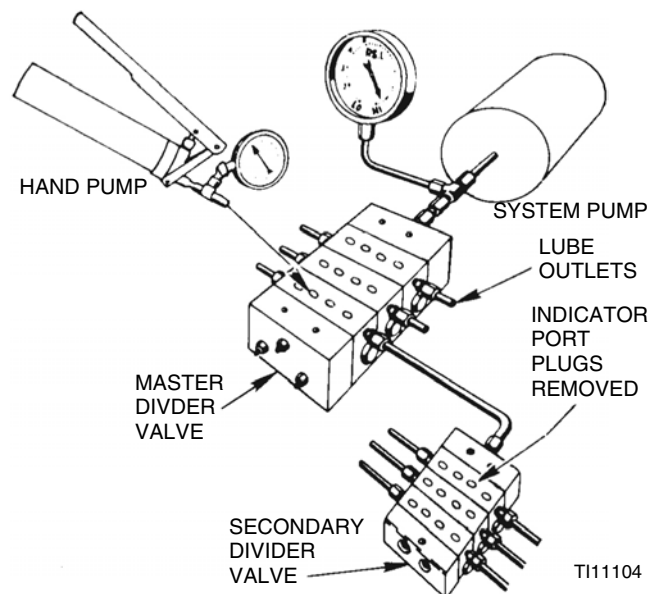

FIG. 12
5. If in Step 4, a blockage has been indicated downstream of the master divider valve, install a manual pump in the indicator port of the master divider valve that is common to the blocked area. (See FIG. 12).